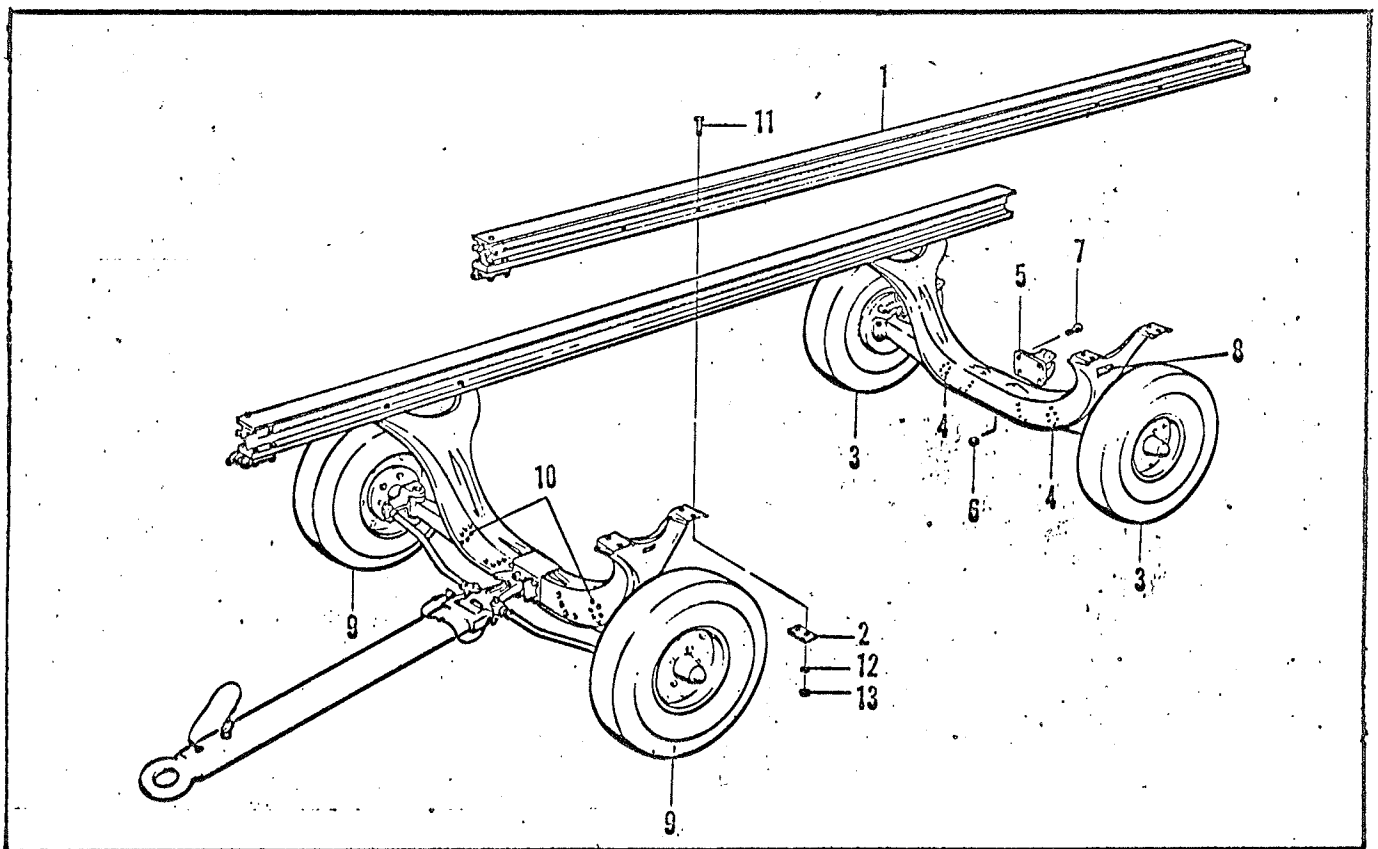
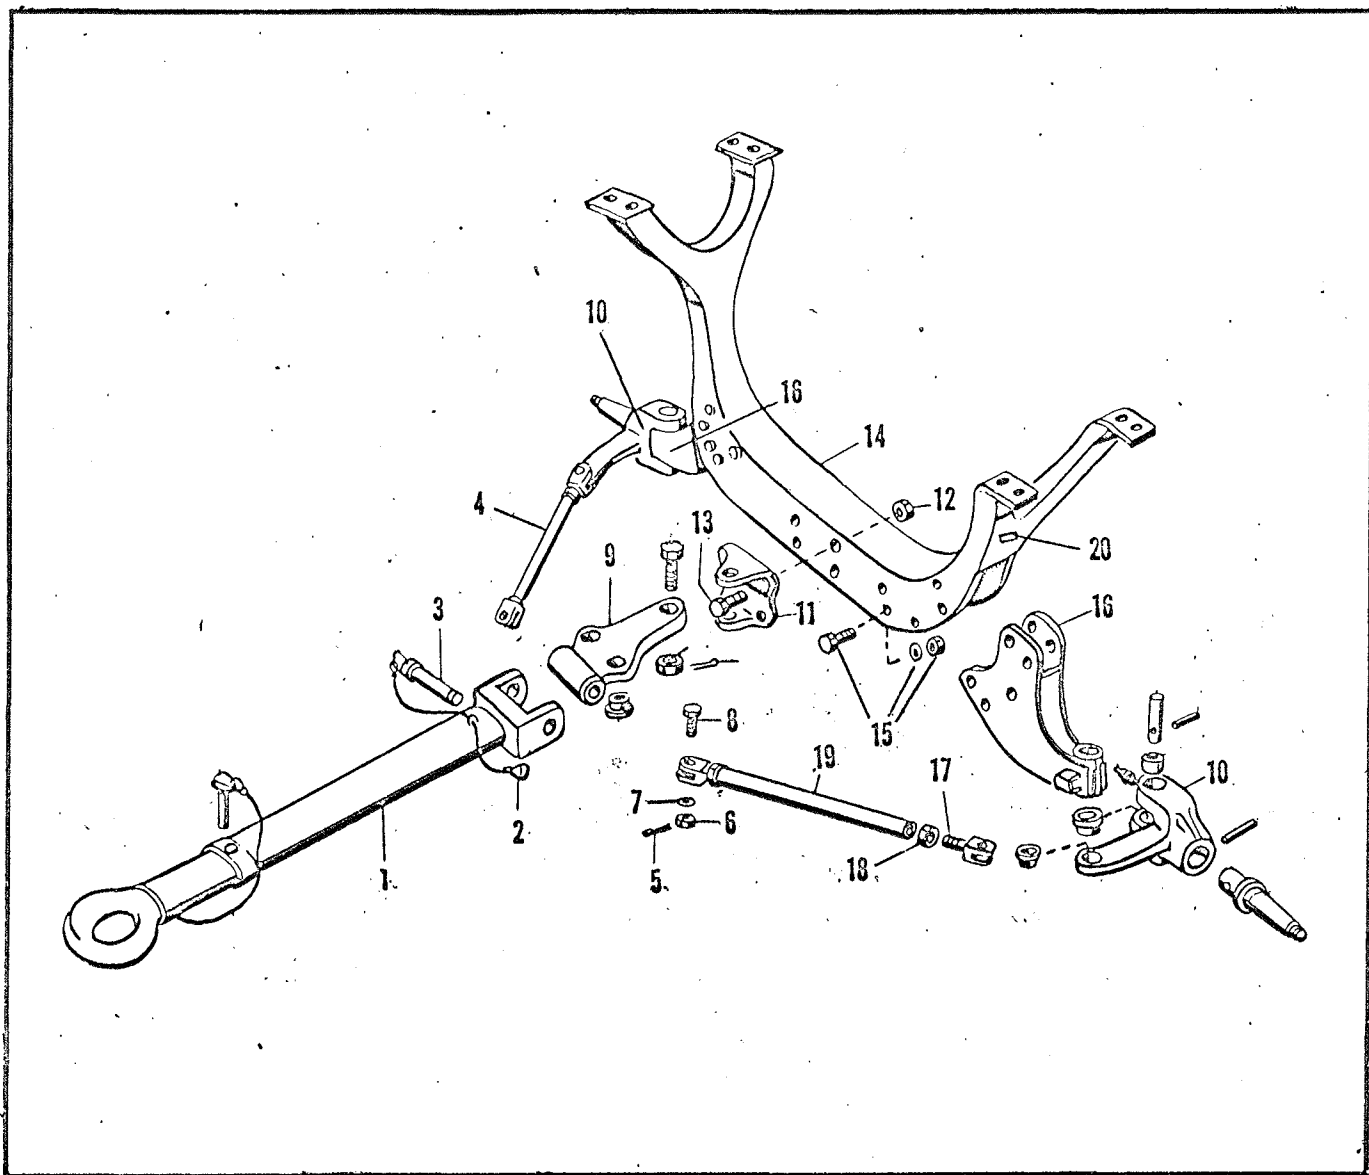

Figure 2 - Trailer-Disassembly and Reassembly
Figure 3 - Forward Frame
2-4 Disassembly - Refer to Figure 2 and proceed as follows:
- c. To disassemble the forward frame assembly Refer to Figure 3 and proceed as follows:
1. Remove towbar (1) by loosening safety pin (2) and withdrawing pivot pin (3).
2. Disconnect tie rod assemblies (4) by removing cotter pin (5), nut (6), washer (7) and bolt (8) which attach them to towing link (9). It is not necessary to disconnect tie rods from steering knuckles (10).
3. Disconnect towing link bracket (11) by removing nuts (12) and bolts (13) attaching it to frame (14). It is not necessary to disassemble towing link from bracket.
4. Disconnect wheel, steering knuckle, tie rod and support assemblies (9, Figure 2) by removing nuts, bolts and washers (15, Figure 3 and 10, Figure 2) from frame. Except for tie rod replacement (see step 5 below) further disassembly of these units is not necessary unless repair or replacement of bushings and king pins is required. Figure 3 illustrates such disassembly of knuckle assemblies (10) and wheel supports (16) as well as the towing link (9). For replacement or repair parts identification refer to T.O. 35D3-3-26-4 covering the Model 3000 Trailer.
5. Disassemble tie rod assemblies from towing link end only by removing clevis (17), jam nut (18) and tie rod tube (19). Discard tie rod tubes and retain other components for reassembly.
- a. Replace two instruction plates (8, Figure 2 and 20, Figure 3) to each replacement frame, Part Numbers 113423-3 (aft) and 113423-5 (forward) using a total of eight AN535-0-4 drive screws provided in the modification kit.
- b. Reassemble tie rods using Parts Number 113423-15 from modification kit in lieu of tubes removed (Item 19, Figure 3).
- f. Refer to Figure 2 and attach new rail assemblies to modified chassis using sixteen AN8-20A Bolts (11), AN860-816 Washers (12), and sixteen MS20365-820 Nuts (13) from modification kit. Make sure that eight rectangular washers (Part Number S105182) removed from Model 3000 are installed between frame and attaching hardware.
- a. Loosen jam nuts (18, Figure 3) and rotate tie rod tubes until each front wheel has a toe-in of 1° to $1-1/2^{\circ}$